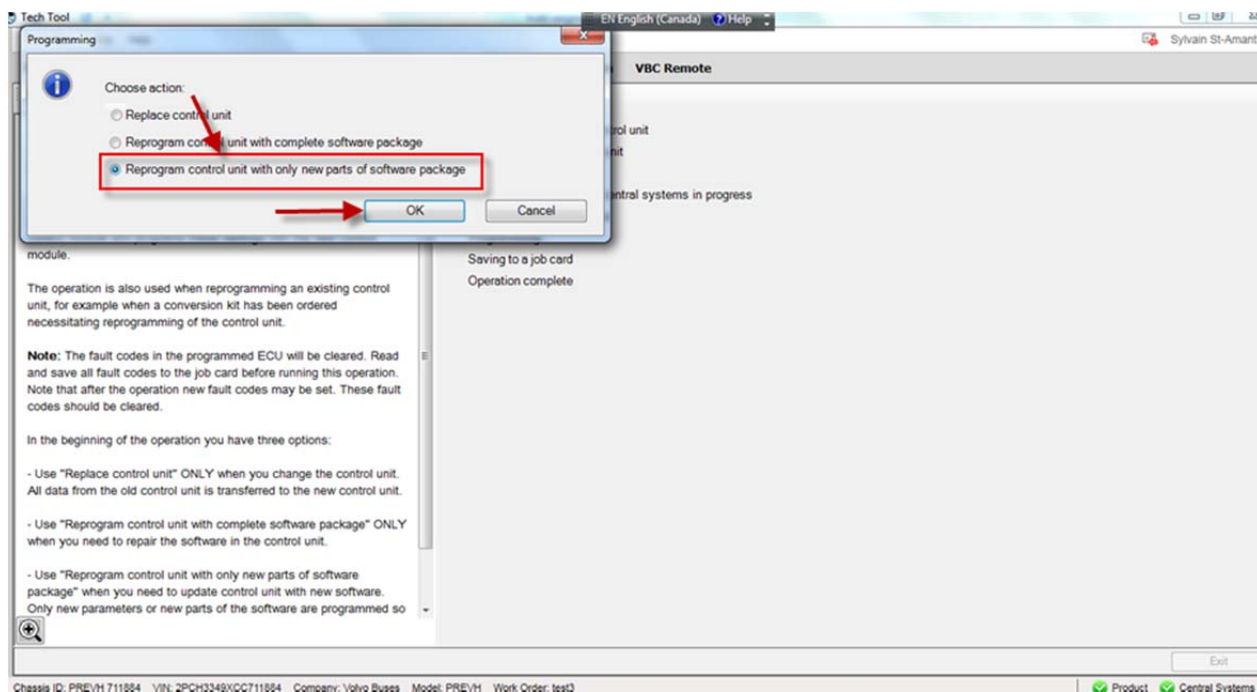

FIGURE 22
4. Select **REPROGRAM CONTROL UNIT WITH ONLY NEW PARTS OF SOFTWARE PACKAGE** and then click OK (FIGURE 22).